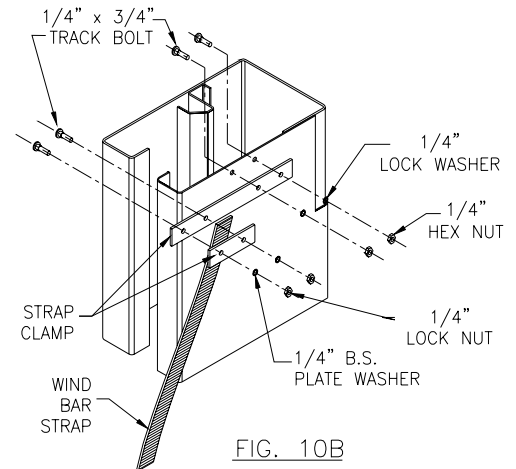

FIG. 10B
- If installing Wind Bar on Front, **Attach Wind Bar Strap Clamps to front of Uprights** (Figure 10b).